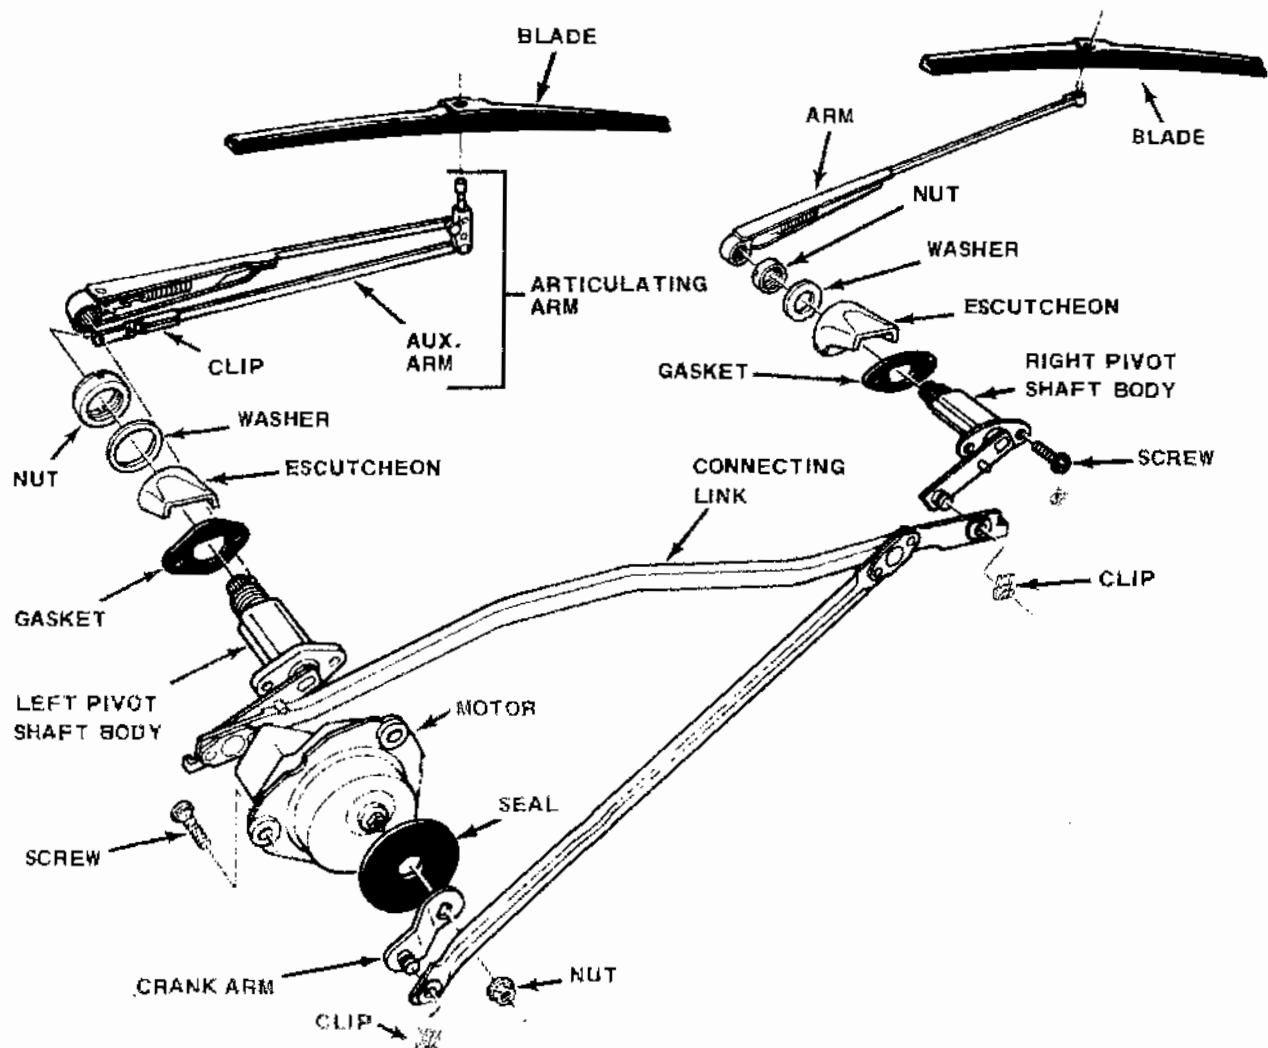

Fig. 17-8 Windshield Wiper Components - Cherokee-Wagoneer-Truck
Cherokees, Wagoneers, and Trucks are equipped, on the driver's side, with an articulated windshield wiper arm which provides an improved wiping pattern (fig. 17-8). The wiper blade-to-wiper arm mounting has also been changed. New service procedures covering these changes are included in this section.
(1) Raise blade end of arm from windshield and move spring tab away from pivot shaft. Disengage auxiliary arm retainer clip (driver's side only) from pivot pin and pull wiper arm from pivot shaft (fig. 17-8).